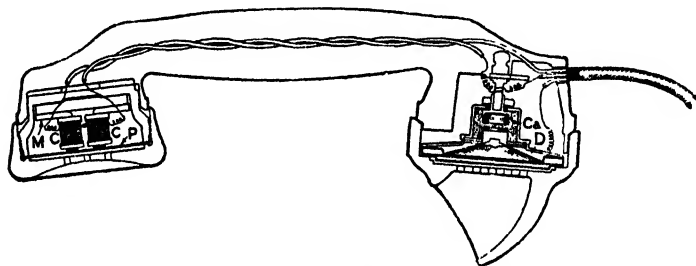

FIG. 247.—Transmitter (right) and receiver (left) of telephone (courtesy of G.P.O.).
Fig. 247 represents the P.O. pattern of transmitter (right) and receiver (left). The transmitter consists essentially of a thin conical aluminium diaphragm D on which the voice impinges. This disc carries a piston which presses against a number of little grains of carbon (Ca) and a current supplied by a battery passes through these. When these are pressed together, they conduct better than when they are lying loose; consequently each compression wave of the sound momentarily increases the flow of electricity through the whole circuit. An exactly similar current is caused to pass through the listener's receiver, a small permanent magnet (M) attracting a thin iron plate (P). A coil (C) is wound on this permanent magnet so that the currents, as they pass, increase or decrease its magnetism—just as they would magnetise an ordinary electromagnet. As its magnetism increases and diminishes, so its attraction on the plate increases and diminishes and the plate moves backward and forward in time with the variations in current, which again are in time with the speaking voice. Thus the plate of the receiver must